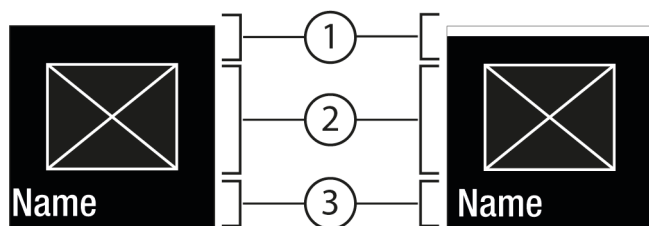
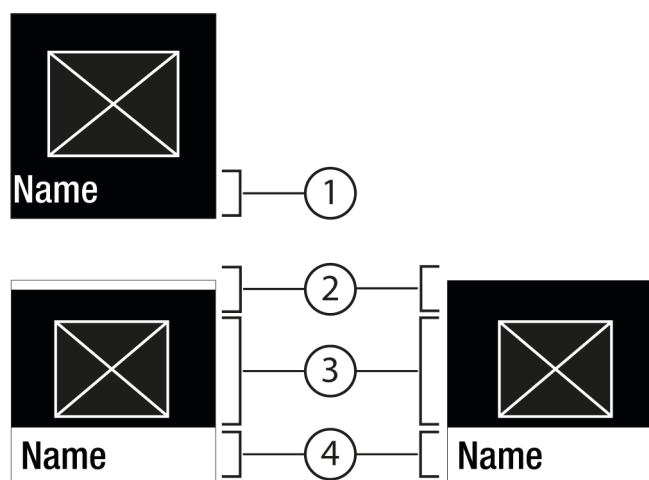

Fig. 6
Fig. 7
- Press Confirm Fig. 5 (2) to open the submenu Fig. 7 (4).
- Set a new value: Press Confirm Fig. 5 (2) to select an active value Fig. 6 (1).
- Back to the menu: Press Confirm Fig. 5 (2) to select the active value Fig. 6 (2).
▷ Status: On Fig. 6 (1) appears briefly in the submenu Fig. 7 (4).